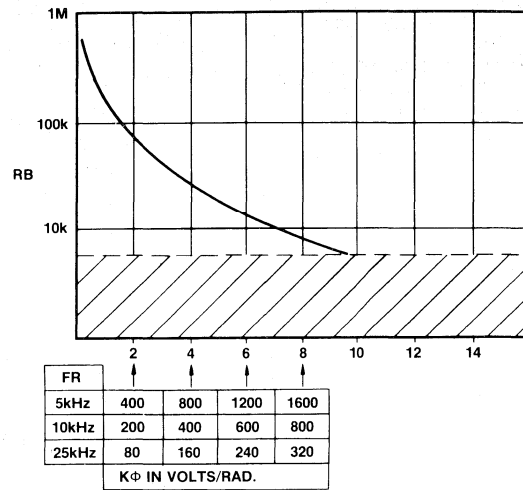

Fig.8 RB versus gain and reference frequency
Fig.8 shows that to achieve a gain of 380V per radian at 10kHz requires RB to be approximately 39kΩ, CAP is zero. A hold capacitor (CH) of non-critical value which might be typically 470pF is connected from CH to VSS. A smaller value is sufficient if the sideband performance required is not high.